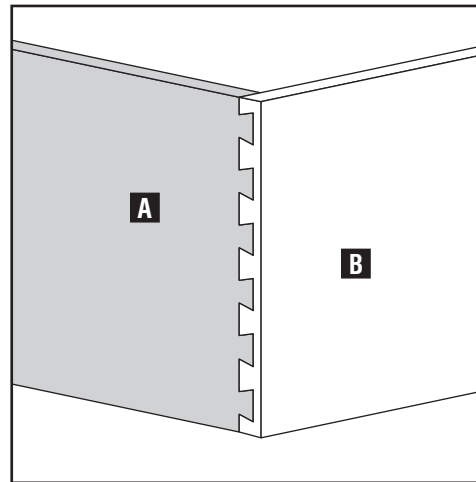

Fig. 1
The dovetail joint is a traditional joint which dates all the way back to the ancient Egyptians. It is both strong and visually appealing. This joint has flared protrusions (tails) (A) Fig. 1 that are cut into one board ("tailboard") and protrusions with slanted sides (pins) (B) that are cut in the other board ("pinboard"). In drawer construction, the drawer front is the pinboard and drawer side is the tailboard.